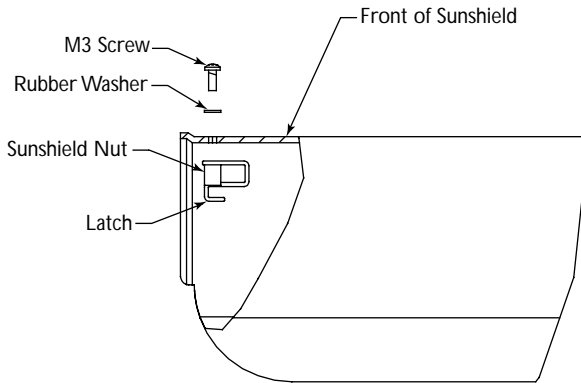

Figure 1: Assembling Latch Mechanism
1. To assemble the sunshield's latch mechanism, assemble the rubber washer onto the M3 x 8 screw. Push the screw through the hole in the front of the sunshield. Assemble the sunshield nut into the latch (channel down). From the inside of the sunshield put the screw into the slot in the latch. Rotate the screw into the nut. The channel will keep the nut from twisting. Do not tighten the screw and nut. This will be done later in the assembly. **See Figure 1.**